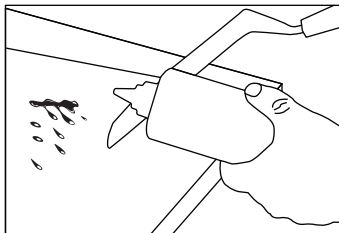

Fig. 8
STEP 03 Apply a few tablespoons of water to the griddle then scrape the water and debris surface, into the grease cup. (See Fig. 8)